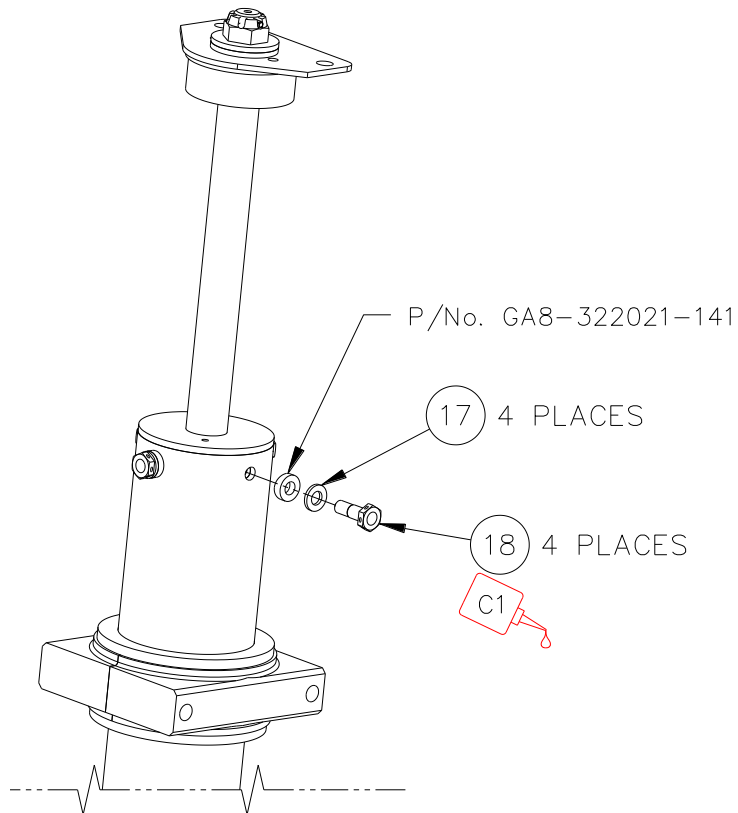

Figure 4: Top Cap Installation
21. Apply a small amount of thread locker (C1 of Table 6) to the Bolts (Item 18) and Install the four Bolts (Item 18) and washers (Item 17) to the Top Cap (Item 5) as shown in Figure 4. Torque to 110 lb.in. If a faster cure is required, activator/primer (C2 of Table 6) may be used; refer to manufacturer's data for use.